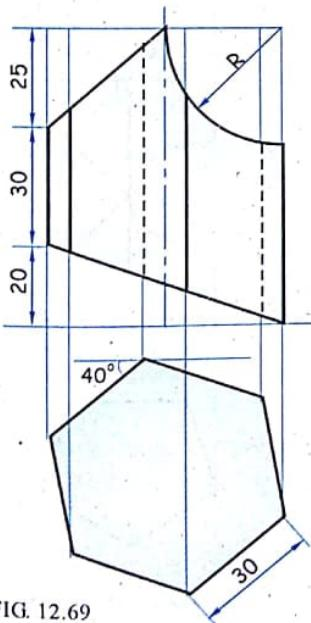

FIG. 12.69
10. Figure 12.69 show the F.V. and T.V. of hexagonal prism with side of base 30 mm, axis height 75 mm. It is made to cut by two straight cutting planes and one curved cutting plane as shown. Show the effect of cutting plane in D.L.S. of prism.